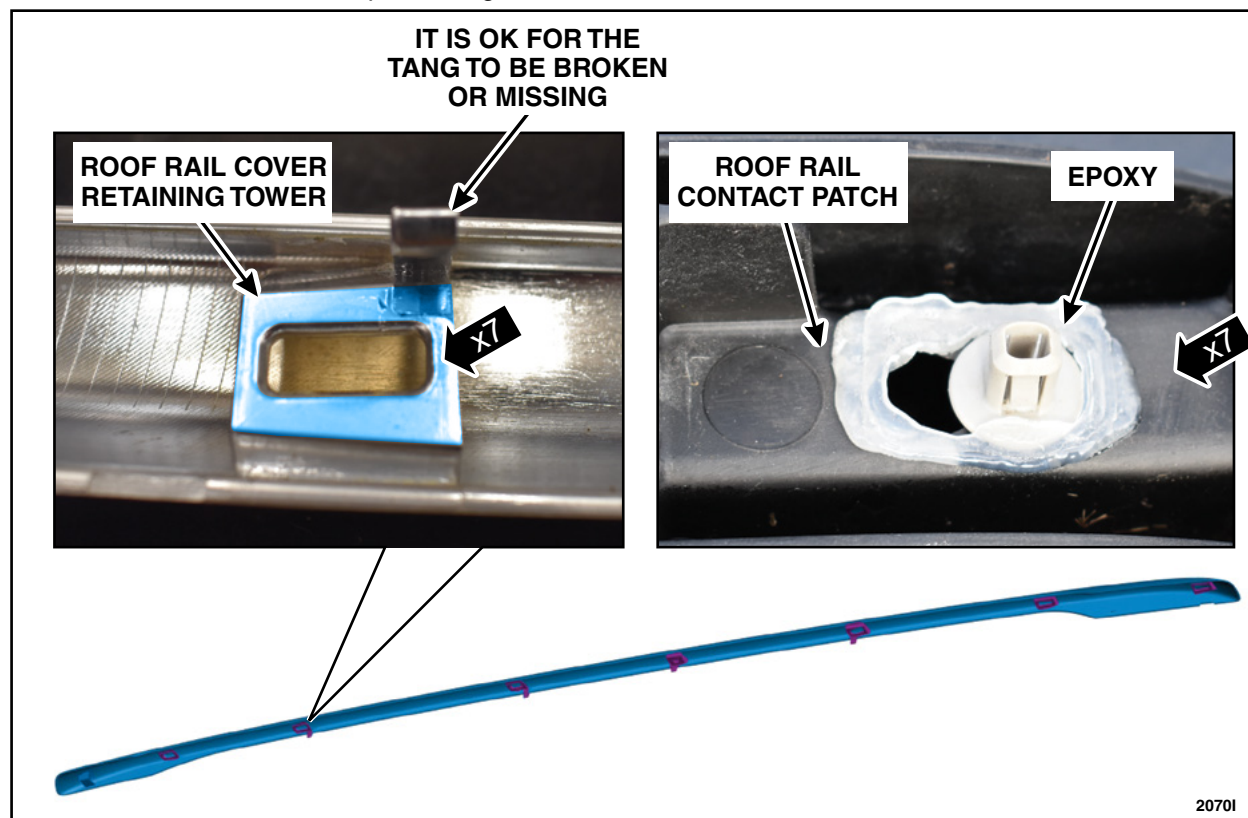

FIGURE 11
1. If Technical Service bulletin (TSB) 19-2364 or 20-2154 was performed, evidence of RTV or epoxy will be seen on the roof rack cover and or roof rail contact patch. Inspect the roof rack cover retaining tower and roof rail contact patch for signs of RTV or epoxy adhesive. See Figure 11. Was evidence of RTV or epoxy found?